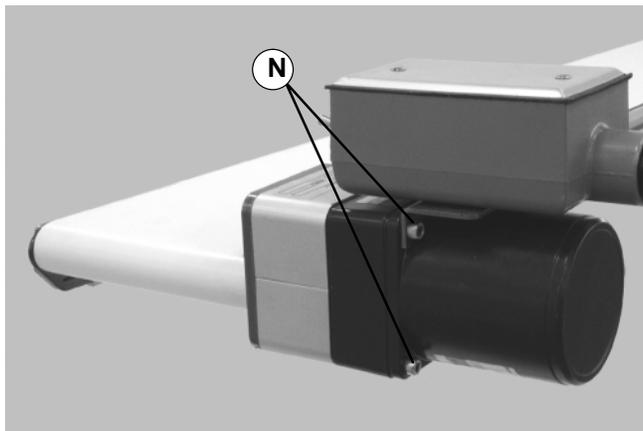

Figure 14
- a. Remove (4) motor mounting screws (N of figure 14).